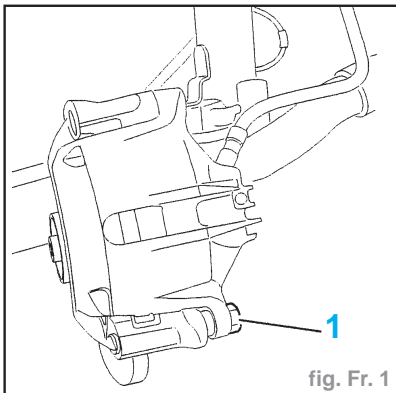

fig. Fr. 1
- Déposer la vis (1) (fig. Fr. 1).